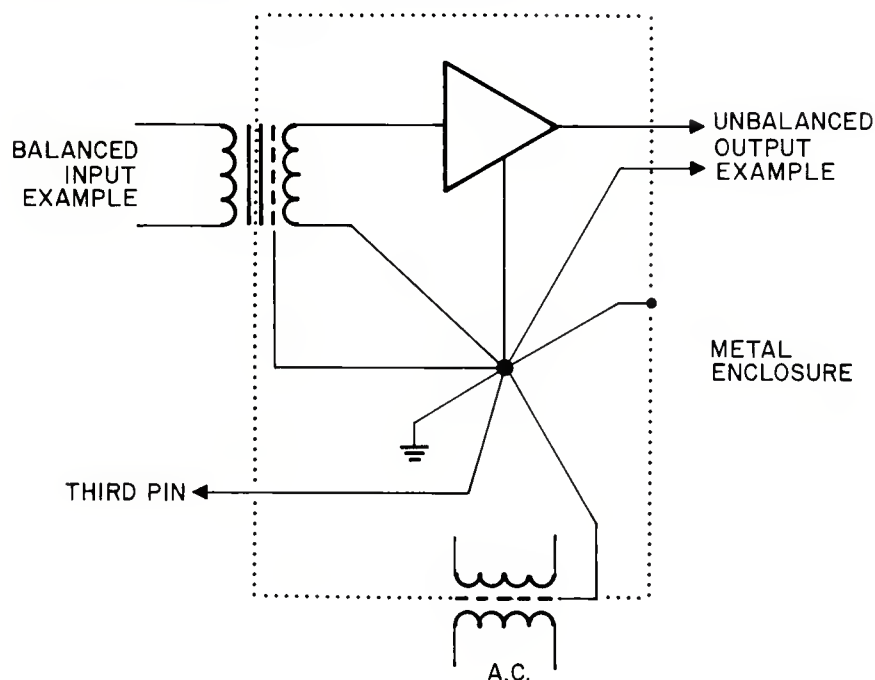

FIGURE 6
3. Each piece of equipment installed in the rack should follow correct grounding and shielding design. To properly ground and shield a piece of electronic equipment, tie the case, the third-pin Earth (or Ground reference), and the electronics ground together at only one point. The point on the electronics ground should be the zero potential point, which is that point from which all current flows to the circuits. (See FIGURE 6.) If you find a piece of rack equipment which does not follow this grounding format, be cautious when wiring it into the system. You may find that electrical isolation from the rack or modification of the unit is necessary.